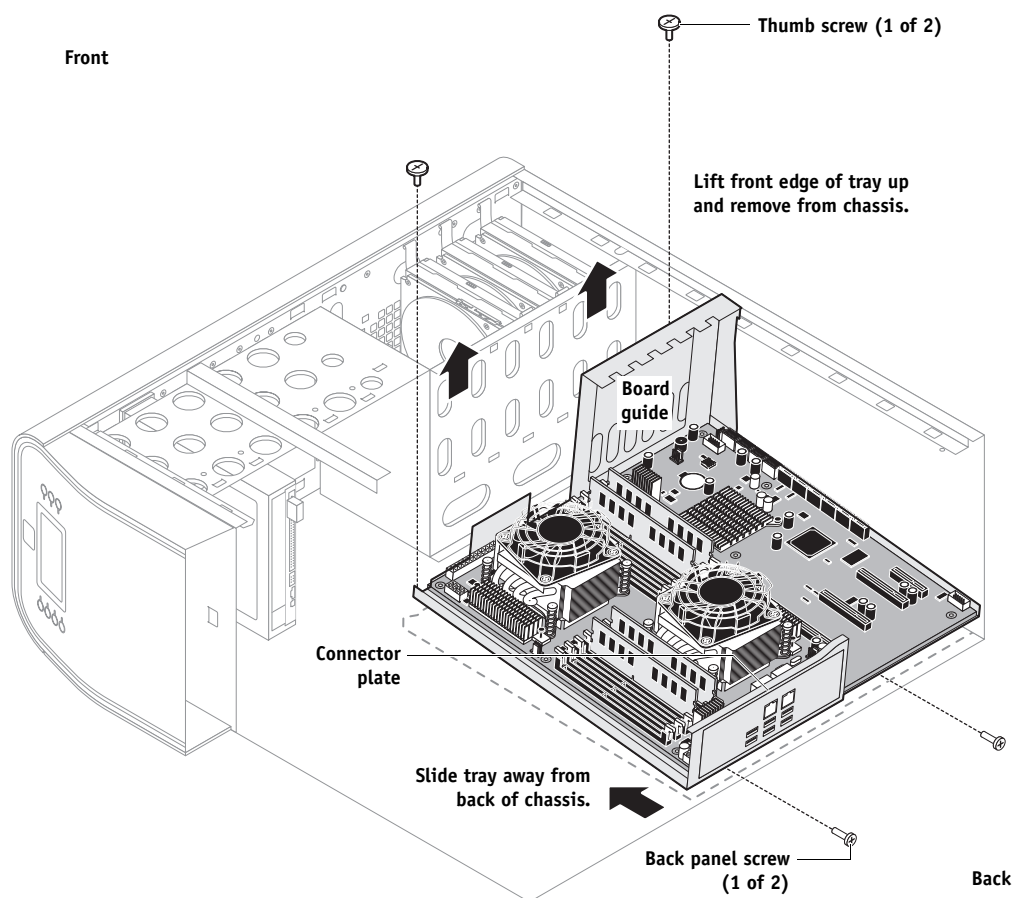

FIGURE 27: Removing the motherboard tray
3. Remove the two screws that secure the connector plate to the back panel of the E-81 (see Figure 27).
5. Slide the motherboard tray away from the back of the chassis until the connector plate detaches from the back panel (see Figure 27).
- 3. Replace the two thumb screws that secure the tray to the chassis (see Figure 27 on page 82).**
- 4. Replace the two screws that secure the connector plate to the back panel of the chassis (see Figure 27 on page 82).**